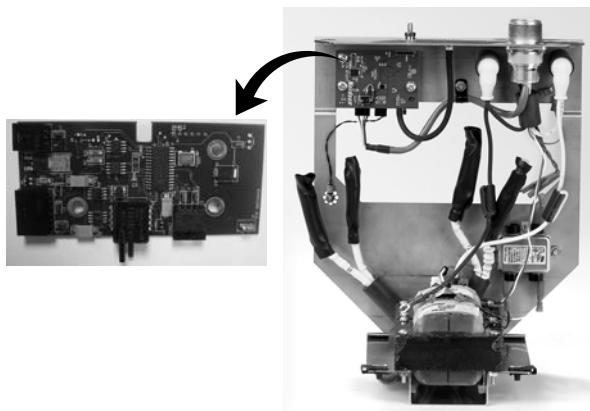

Figure 5-15 Light Detector Board Replacement
2. See Figure 5-15. Disconnect the light detector board.